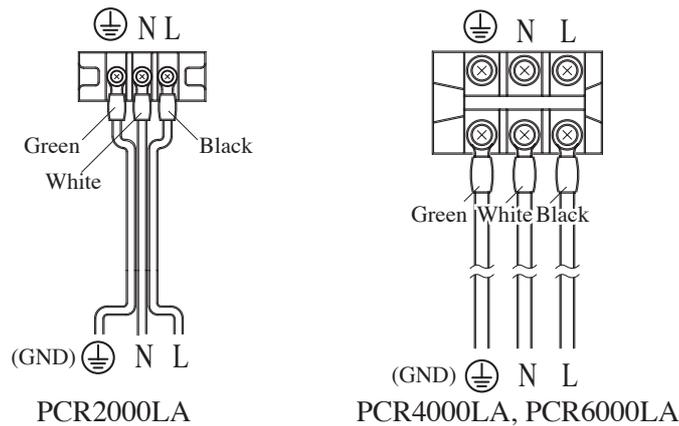

Fig. 2-6 Connecting the Input Power Cable(s) to the INPUT Terminal Board
1. Remove the terminal-box cover from the rear of an AC power supply, and connect the provided input power cable(s) to the INPUT terminal board as shown in Fig. 2-6.